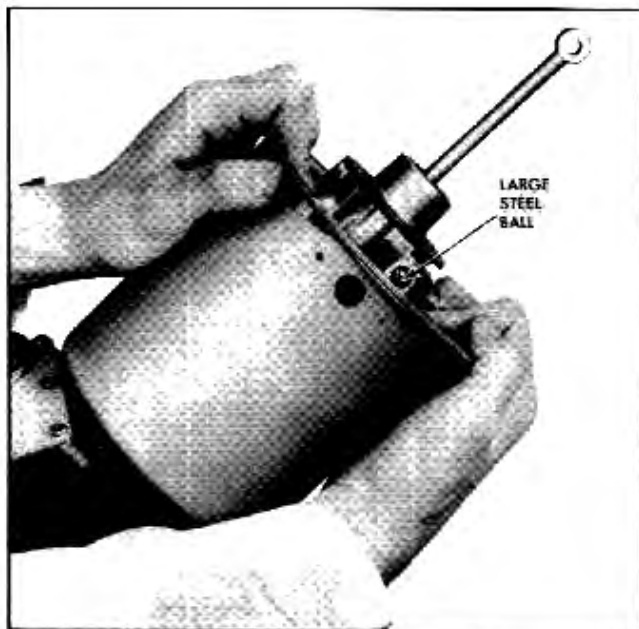

Fig. 5-71 Positioning Power Piston Assembly
5. Place power piston and assembled parts on top of coil spring so that the boss plugged with the largest ball will enter housing below the exhaust tube hole in housing by approximately $\frac{1}{4}$ ". Press power piston assembly into housing (Fig. 5-71).